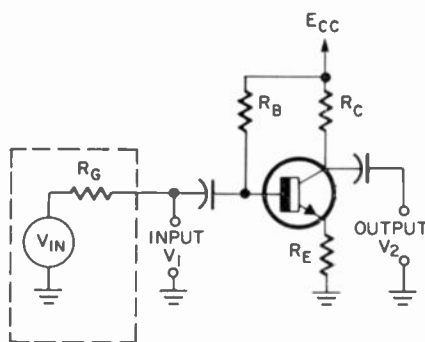
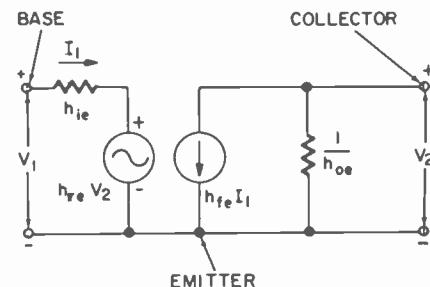

FIG. 2—COMMON-EMITTER amplifier complete with input and output circuits and equivalent input signal generator.
FIG. 3—HYBRID EQUIVALENT of a common-emitter transistor. Polarity markings show relative phase at any one instant.
1. When a short is placed across  $R_C$ ,  $V_2$  is zero. A ratio of short circuit output current to the input current,  $I_2/I_1$ , is assigned the symbol  $h_r$  or  $h_{r,c}$ . In the common-emitter circuit in Fig. 2, this is refer-
A circuit describing the transistor by using each of these relationships, is shown in Fig. 3. All circuit arrangements are represented by the same equivalent circuit and similar h-parameter symbols. In all cases, subscripts are added to the symbols to indicate the circuit involved. Thus  $h_{r,c}$  refers to  $h_r$  for the common-emitter mode
In the common-emitter circuit in Fig. 2 the signal-voltage source,  $V_{in}$ , feeding the base-emitter circuit has an internal impedance  $R_{in}$ .  $R_C$  is the collector load resistor. Compare this with the equivalent circuit in Fig. 3. Here, only the transistor is represented in the equivalent circuit. The impedance looking into the base of the transistor is  $h_{i,c}$  modified by the presence of  $h_{r,c}V_2$ . Similarly, the output impedance is  $1/h_{o,c}$  in parallel with the current source  $h_{r,c}I_1$ . The voltage, current and power gains can also be determined from the two loops in Fig. 3.
The various bits of data about the circuit in Fig. 2 can be determined by analyzing the T-equivalent circuit when it is connected to all resistors and sources in the associated circuit, as in Fig. 4-b. The voltage source sees an impedance when looking into the transistor. It is equal to the base resistor,  $r_b$ , in addition to the sum of the emitter resistance,  $r_e$ , and the external emitter resistor,  $R_E$ , when the latter two are multiplied by beta. (As discussed in a previous article, all resistors when reflected from the emitter into the base circuit, appear in the base circuit as the emitter resistors multiplied by the beta of the transistor.) Consequently the total transistor input resistance seen by the generator is
$R_{iX}$  is shunted by the bias resistors  $R_B$  in Fig. 2. The source feeding the transistor sees  $R_B$  in parallel with  $R_{iX}$ .
In a similar manner, with similar considerations, all the other statistics for the common-emitter arrangement can be determined using the equivalent-T model. Assigning  $R_{c,T}$  to represent the impedance the collector load resistor sees by looking back into the transistor, while  $A_v$  is the voltage gain of the circuit in Fig. 2, and  $A_i$  and  $G$  are the current and power gains, respectively, of the circuit, the approximate equations derived for the common emitter arrangements are: